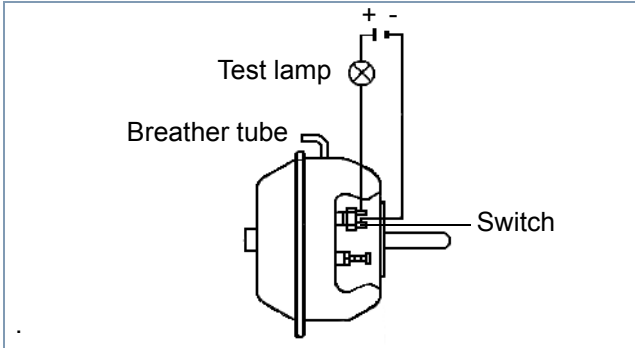

Fig. 1 Brake Chamber
- For devices with stroke indicator, check the switch (see fig. 1) for proper electrical and mechanical function.
- Mount test port to breather tube (see fig. 1) in cylinder cover.